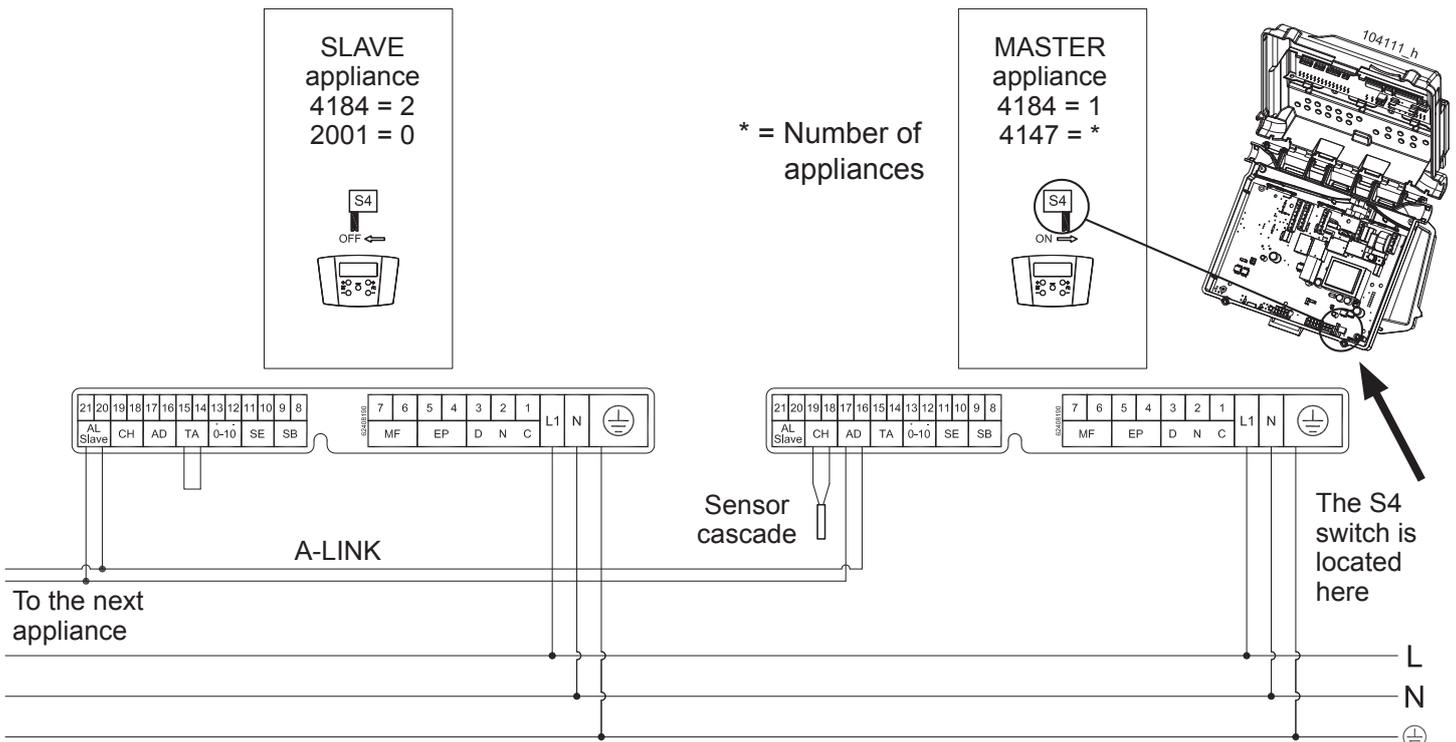

Figure 5-13 – Wiring diagram for appliances in a cascade
- 2 - Set up the electrical installation as shown in figure 5-13;
4 - On the "Master" unit, check that switch "S4" is in the ON position (see figure 5-13);
- 6 - On the "Slave" unit, move switch "S4" to the OFF position (see figure 5-13);